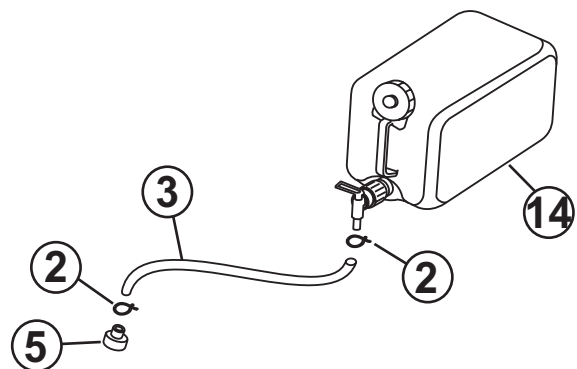

Figure 25. Hose and Clamps
6. Connect the Swivel Connector (item 5, Figure 25) to one end of the hose (item 3) with clamp (item 2).
7. Remove the hard plastic tube from the valve on the Water Tank (item 14). Slide this tube into the open end of the hose (item 3) to a depth of approximately 1 inch (25.4mm). Fasten with clamp (item 2).